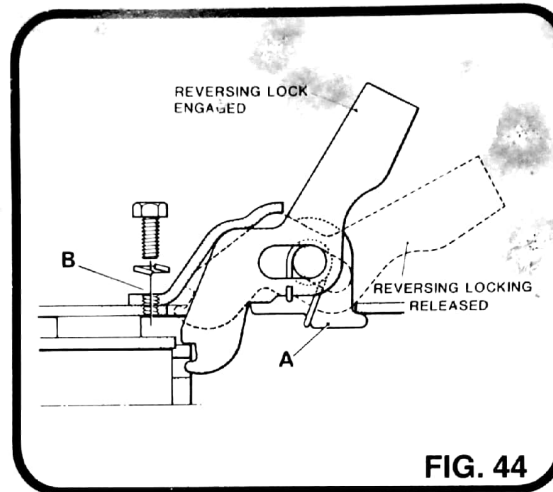

FIG. 44
- (j) Refit the gaiter (8) into position.
- (k) Refit the coupling head (9) and secure with bolt (4), bush (5) and hexagonal nut.
- (n) Refit the bolt (3) through the coupling head, the draw shaft tube and the damper eye. Secure with the hexagonal nut.
- (c) Secure the reversing lock with a hexagonal bolt and lock washer, retapping the bore of hole (B) if necessary.
3.3 Retrofit a Reversing Lock on 131R/161R/251R/161S and 251S Type Overrun Devices. (Fig. 44)
- (b) Fit lugs (A) into the body of the overrun device.